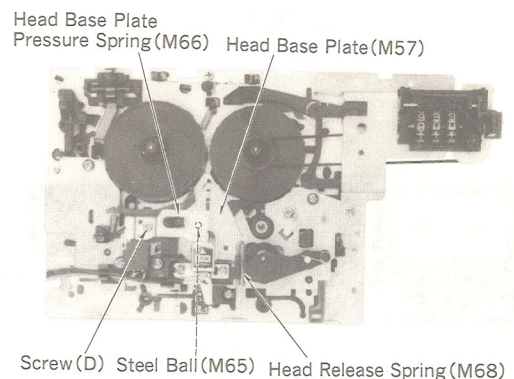

Fig. 11
1. With screw (D) removed, head base plate pressure spring (M66) can be detached. In this case, take care not to lose steel ball (M65). (fig. 11)
2. With head release spring (M68) removed, head base plate (M57) can be detached. (fig. 11, 12) In this case, take care not to lose steel ball (M65) and roller (M64).